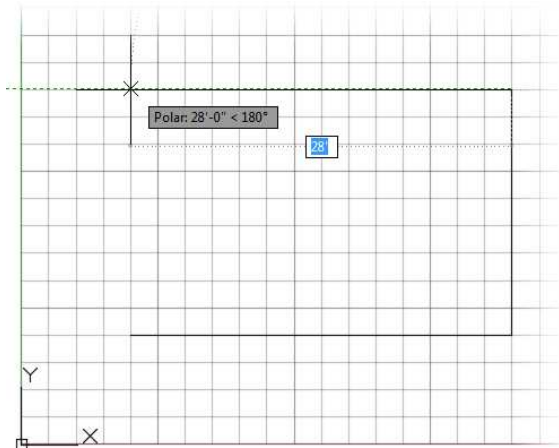

FIGURE 3.14: Drawing the second and third wall lines
10. Move the crosshair cursor directly left of the last point picked until the dashed linear dimension displays 28' (8550) and the dashed angular dimension displays 180.00°, and then pick that point (see Figure 3.14).